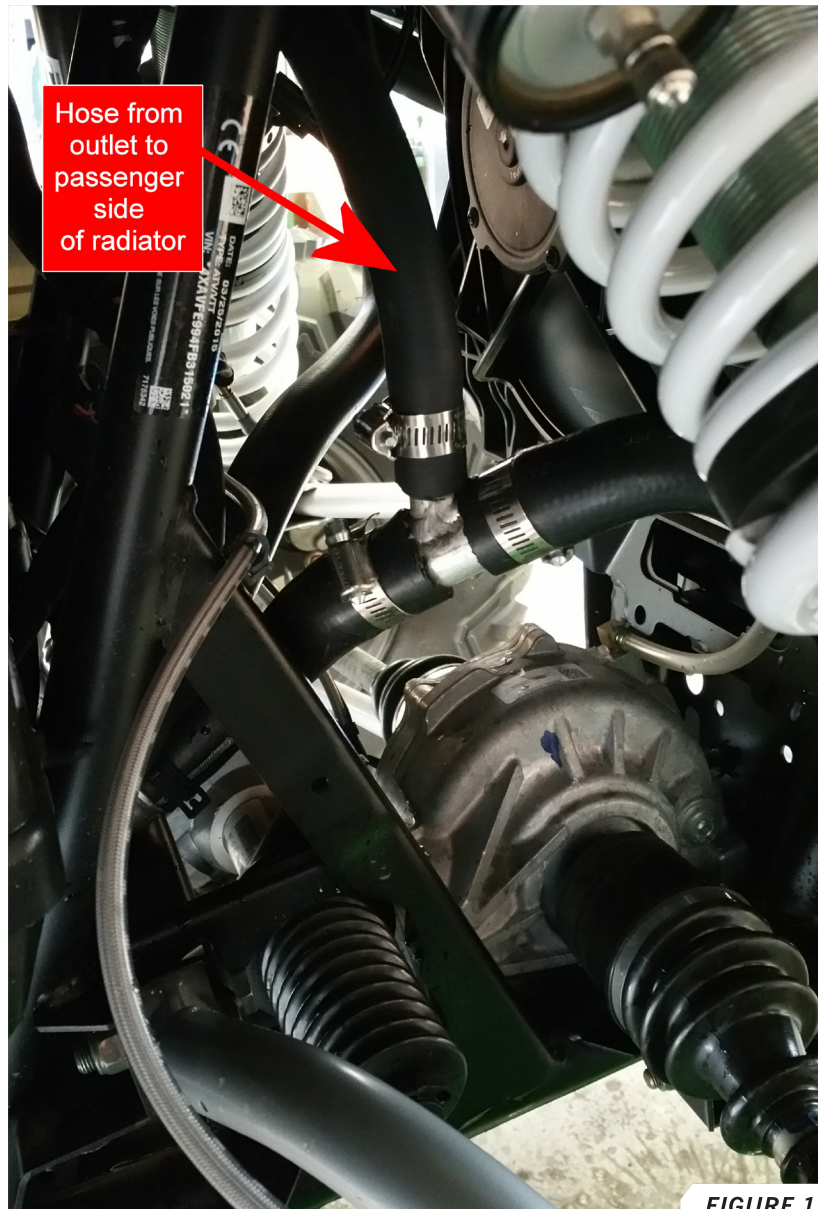

FIGURE 11
29. Run the ⅝" hose from the rear passenger side of the vehicle, starting at the water pump (as shown in *FIGURE 11*), leaving 6–12" of slack. Follow the factory coolant lines toward the front of the vehicle.